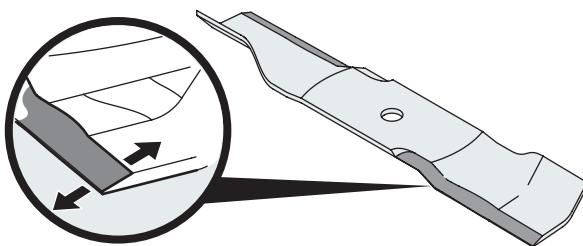

Figure 43
3. To properly sharpen the cutting blades, remove equal amounts of metal from both ends of the blades along the cutting edges, parallel to the trailing edge, at a 25°-30° angle. Always grind each cutting blade edge equally to maintain proper blade balance. See Figure 43.